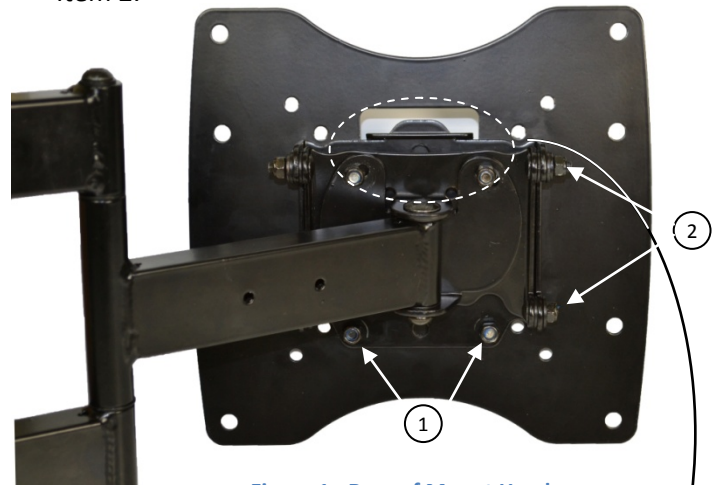
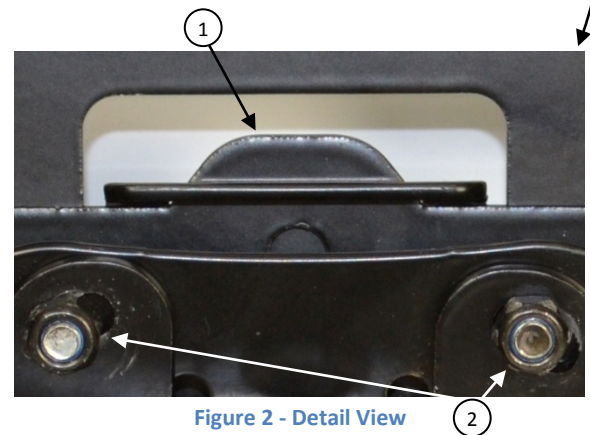

Figure 1 - Rear of Mount Head
Figure 2 - Detail View
6. Remove the lower set of fasteners on mount head (Figure 1, Item 1) and remove the mount head.
9. Hang the Monitor/Mount Head assembly by aligning the slotted flange with the tongue (Figure 2, Item 1). This will allow the monitor to hang on the mount while the lower fasteners are re-attached.
10. Tilt adjustment bolts are shown in Figure 1, Item 2. Rotation adjustment bolts are shown in Figure 2, Item 2.